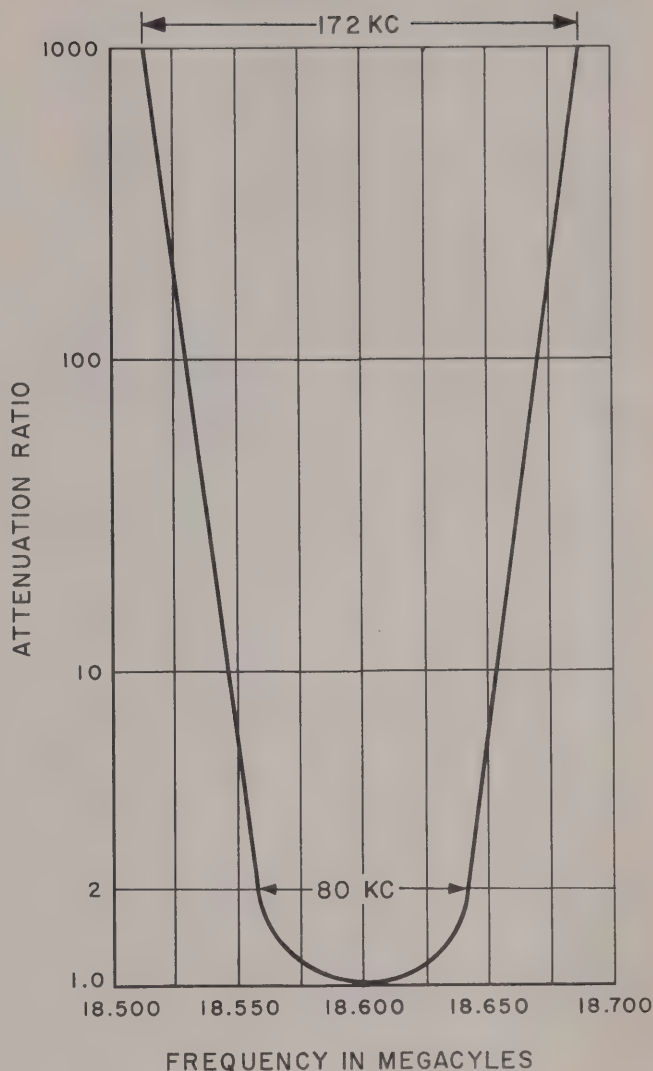

Figure 7-7. Typical I-F Selectivity Characteristic
(18) Repeat steps (10) through (17) until no changes in alignment occur. The over-all i-f selectivity curve appears in figure 7-7.